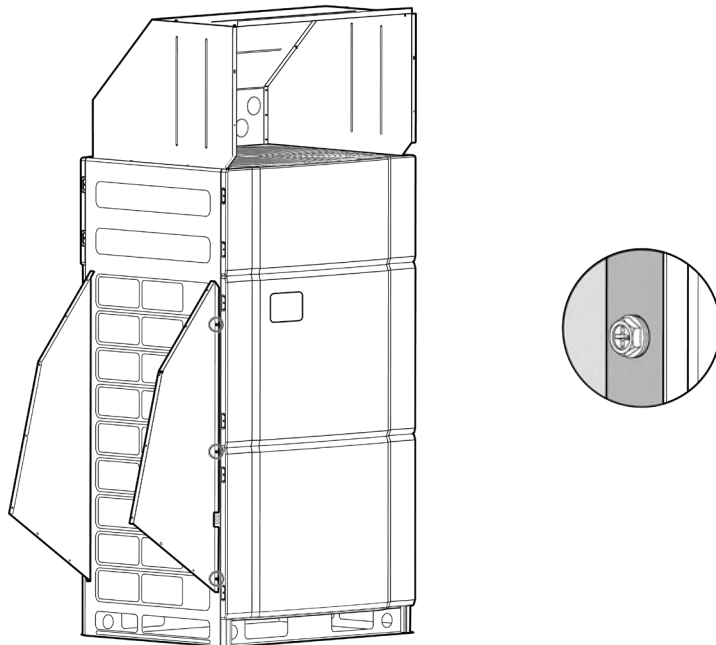

Fig. 3.10
(2) Installation of side plate. Dismantle the installation pasteboard 1. During installation, the bottom edge of left and right side plate of the left sub-assy shall be folded outwards. Fix the side plate with 6 screws, as is shown in Fig 3.10.